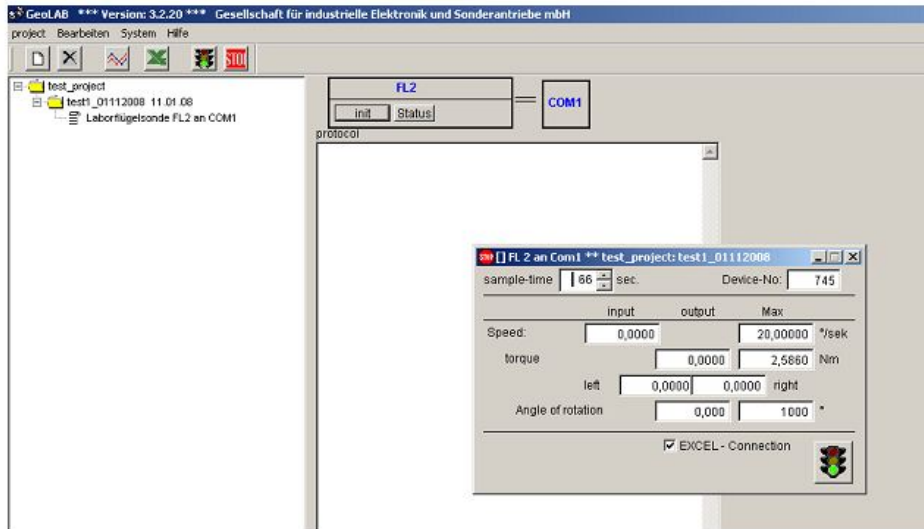

Figure 10. Giesa Test Parameters and GeoLab "init" Window.
4. Select **init** on the Giesa GeoLAB *main control screen* to open a monitoring screen that shows near real-time values of torque and angle of rotation (see Figure 10).